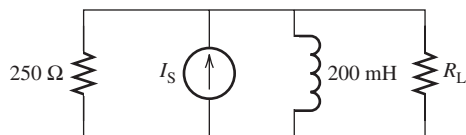

FIGURE P6.46 Circuit for Problem 6.46.
6.46 (B)* Determine the Norton equivalent current and equivalent impedance observed by R_L for the circuit in Figure P6.46 with the current source, $4 \cos(200t + 30^\circ)$.